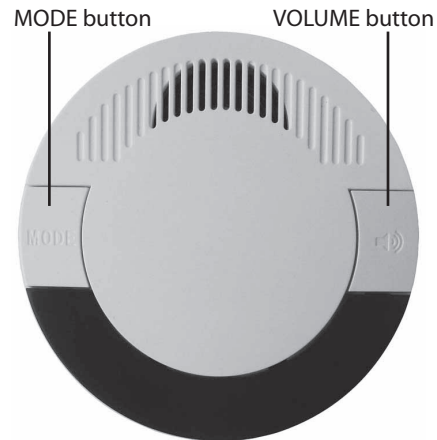

Figure 1
- 1) Push and hold the MODE and VOLUME buttons (Figure 1) for three seconds.